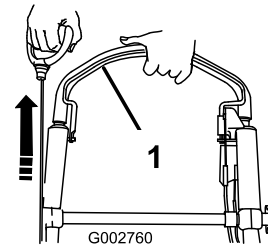

Figure 22
3. Hold the blade control bar against the handle (Figure 22).
4. Start the engine using the recoil starter (Figure 22).